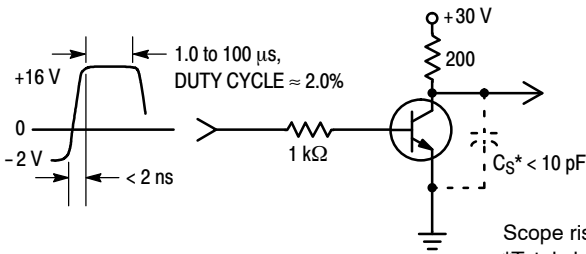

Figure 1. Turn-On Time
2. When inserting for assembly, ensure the terminal pitch matches the substrate board's hole pitch to prevent spreading or pinching the lead terminals. (Fig.1)